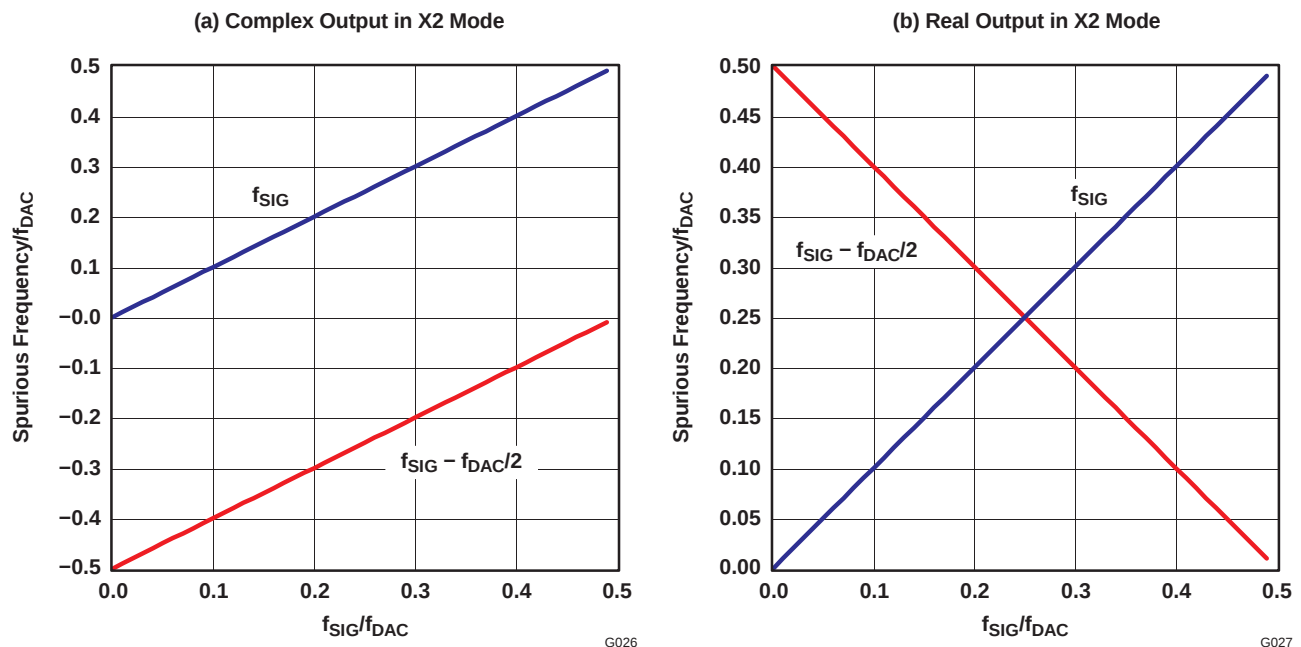
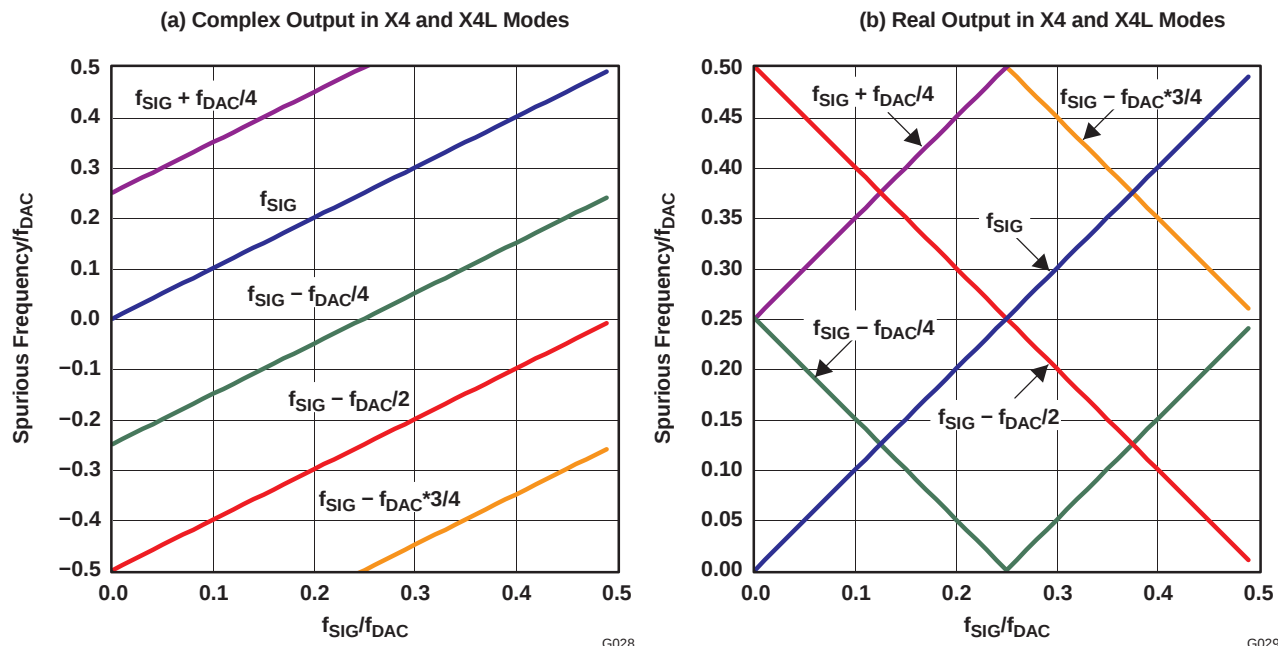
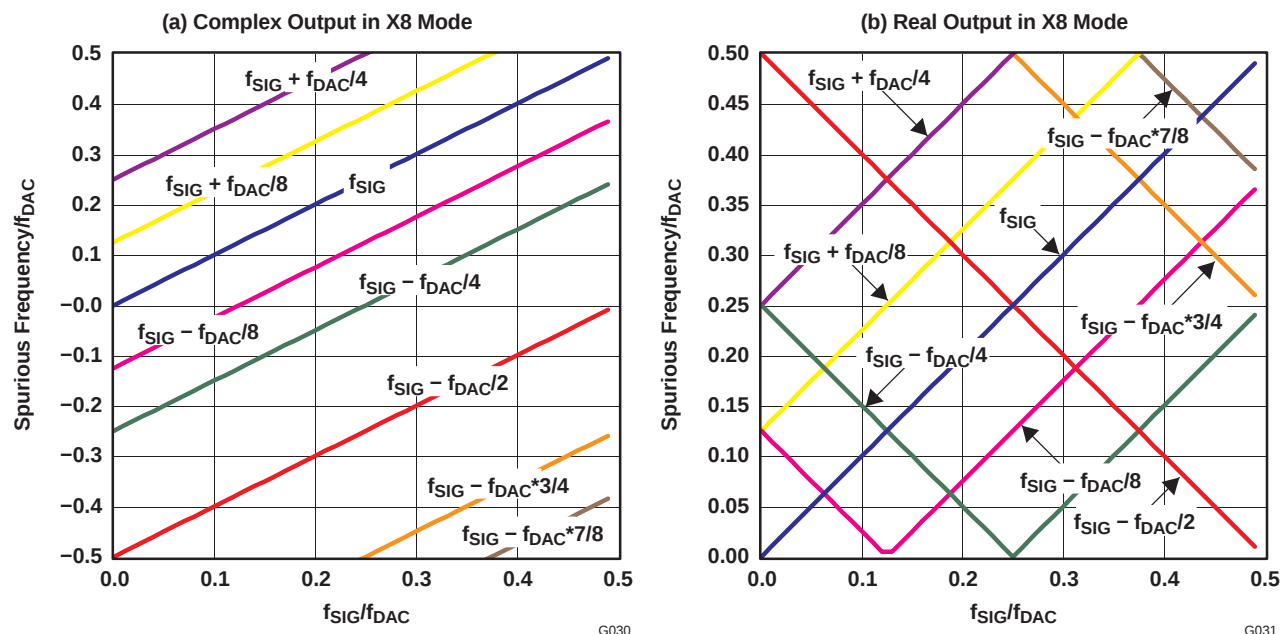
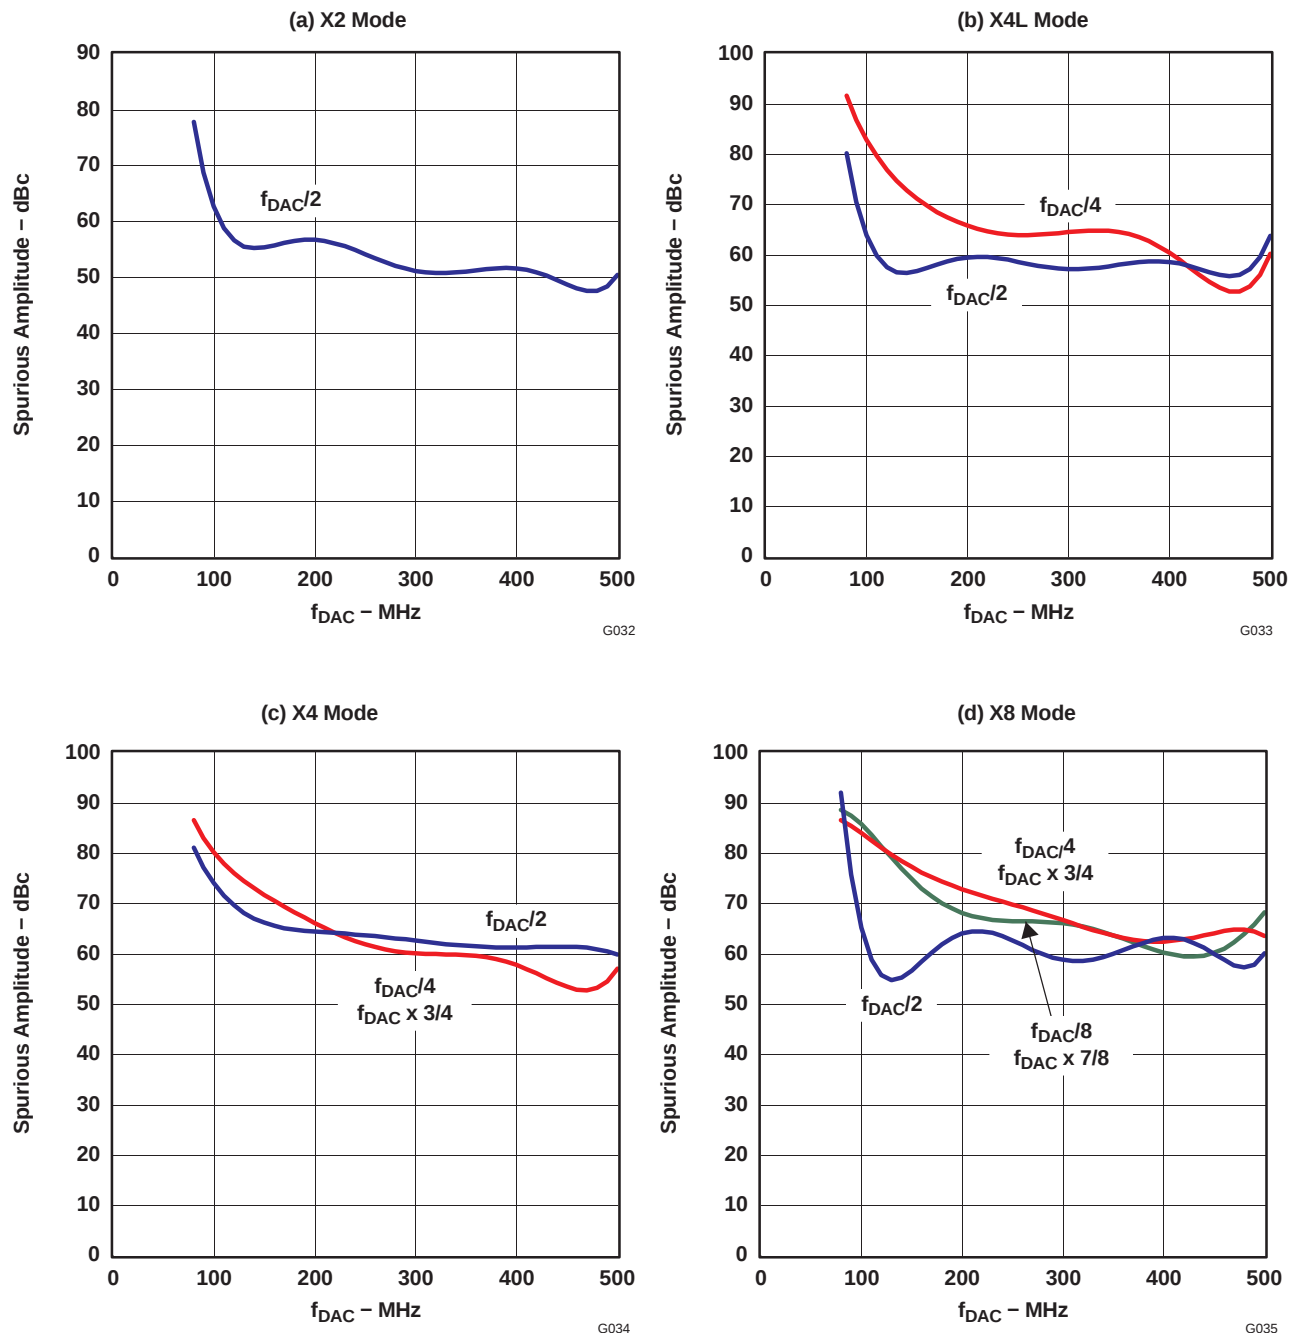

Figure 70. Frequency of Clock Mixing Spurious Images in X2 Mode
Figure 71. Frequency of Clock Mixing Spurious Images in X4 and X4L Modes
Figure 72. Frequency of Clock Mixing Spurious Images in X8 Mode
Figure 73. Clock-Related Spurious Signal Amplitude With PLL Off for $f_{SIG} = 11 \times f_{DAC} / 32$
Figure 70 shows the location of spurious signals for X2 mode as a function of $f_{\text{SIG}}/f_{\text{DAC}}$. For complex outputs, the spurious frequencies cover a range of $-0.5 \times f_{\text{DAC}}$ to $0.5 \times f_{\text{DAC}}$, with the negative complex frequency indicating that the spurious signal falls in the opposite sideband from the wanted signal at the output of the AQM. For the real output, the phase information for the spurious signal is lost, and therefore what was a negative frequency for the complex output is a positive frequency for a real output.
Figure 71 shows the location of spurious signals for X4 and X4L mode as a function of $f_{\text{SIG}}/f_{\text{DAC}}$. The addition of the $f_{\text{DAC}}/4$ clock frequency for the first interpolation filter creates three new spurious signals. For a complex output, the nearest spurious signals are $f_{\text{DAC}}/4$ offset from f_{SIG} . For a real output, the signal due to $f_{\text{SIG}} - f_{\text{DAC}}/4$ and $f_{\text{SIG}} - f_{\text{DAC}} \times 3/4$ falls in band as f_{SIG} approaches $f_{\text{DAC}}/8$ and $f_{\text{DAC}} \times 3/8$. This creates optimum real output frequencies $f_{\text{SIG}} = f_{\text{DAC}} \times N/16$ ($N = 1, 3, 5$, and 7), where the minimum spurious product offset from f_{SIG} is $f_{\text{DAC}}/8$.
Figure 72 shows the location of spurious signals for X8 mode as a function of $f_{\text{SIG}}/f_{\text{DAC}}$. The addition of the $f_{\text{DAC}}/8$ clock frequency for the first interpolation filter creates four new spurious signals. For a complex output, the nearest spurious signals are $f_{\text{DAC}}/8$ offset from f_{SIG} . For a real output, the optimum real output frequencies $f_{\text{SIG}} = f_{\text{DAC}} \times N/16$ ($N = 3$ and 5), where the minimum spurious product offset from f_{SIG} is $f_{\text{DAC}}/8$.
Figure 73 and Figure 74 show the typical worst-case spurious signal amplitudes vs f_{DAC} for a signal frequency $f_{SIG} = 11 \times f_{DAC}/32$ in each mode for PLL on (PLL clock mode) and PLL off (external and dual-clock modes). Each spurious signal ($f_{DAC}/2$, $f_{DAC}/4$ and $f_{DAC}/8$) has its own curve. The spurious signal amplitudes can then be adjusted for the exact signal frequency f_{SIG} by applying the amplitude adjustment factor shown in Figure 75. The amplitude adjustment factor is the same for each spurious signal ($f_{DAC}/2$, $f_{DAC}/4$, and $f_{DAC}/8$) and is normalized for $f_{SIG} = 11 \times f_{DAC}/32$.
1. Find the spurious signal frequencies for the appropriate mode from Figure 70, Figure 71, or Figure 72.
2. Find the amplitude for each spurious frequency for the appropriate mode from Figure 73 or Figure 74.
First, the location of the spurious signals is found for the X4 complex output in Figure 71\(a\). Three spurious signals are present in the range $-0.5 \times f_{\text{DAC}}$ to $0.5 \times f_{\text{DAC}}$: two from $f_{\text{DAC}}/4$ (35 MHz and -215 MHz) and one from $f_{\text{DAC}}/2$ (-90 MHz). Consulting Figure 73\(c\), the raw amplitudes for $f_{\text{DAC}}/2$ and $f_{\text{DAC}}/4$ are 60 and 58 dBc, respectively. From Figure 75, the amplitude adjustment factor for $f_{\text{SIG}} = 0.32 \times f_{\text{DAC}}$ is estimated at ~1 dB, and so the $f_{\text{DAC}}/2$ and $f_{\text{DAC}}/4$ are adjusted to 61 and 59 dBc.
First, the location of the spurious signal is found for the X2 real output in Figure 70\(b\). One spurious signal is present in the range 0 to $0.5 \times f_{\text{DAC}}$ at $0.325 \times f_{\text{DAC}}$ (see Table 17). Consulting Figure 74\(a\), the raw amplitude for $f_{\text{DAC}}/2$ is 47 dBc. From Figure 75, the amplitude adjustment factor for $f_{\text{SIG}} = 0.175 \times f_{\text{DAC}}$ is estimated at ~ 6 dB, and so the $f_{\text{DAC}}/2$ spurious signal is adjusted to 53 dBc.